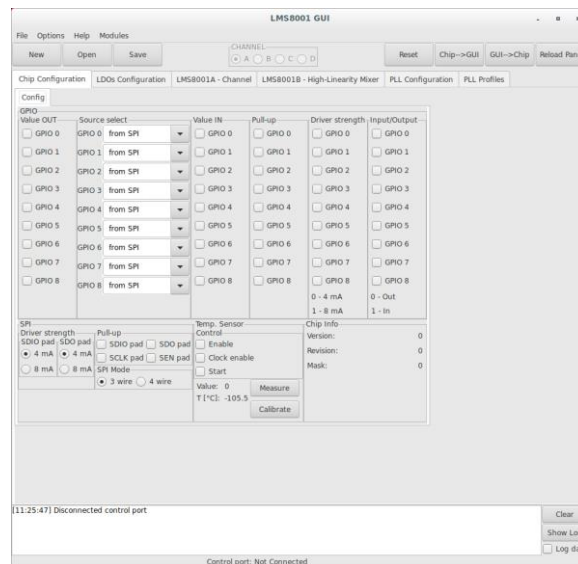

Figure 3.2: Startup window
4. Start the GUI application, lms8suite. After this step, the startup window shown in Figure 3.2 should appear.